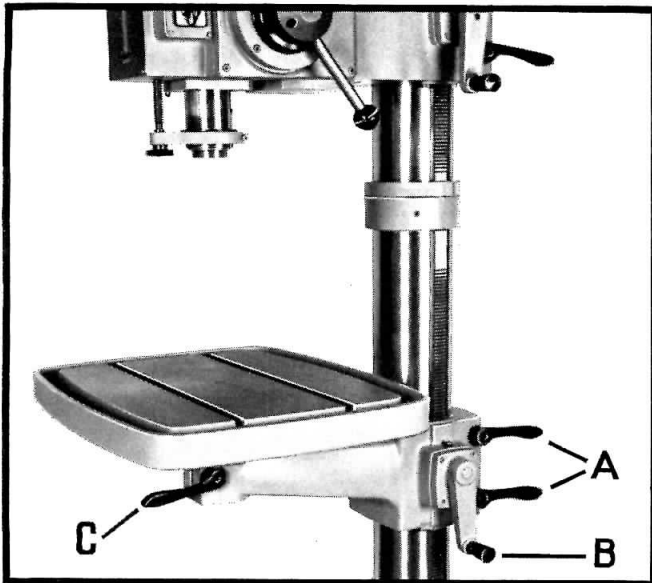

FIG. 8
The table on your machine is easily raised or lowered by loosening the two locking levers (A) Fig. 8, and turning hand lever (B) until the table is at the desired height. After table is at desired height tighten locking levers (A). Also, the table can be rotated 60° right or left by loosening locking lever (C) Fig. 8.
H — ELECTRICS (FIG. 8)